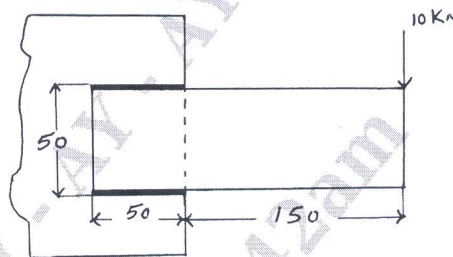

Fig.Q8(b)
b. A welded connection of steel plates as shown in Fig.Q8(b) is subjected to an eccentric load of 10kN. Determine the throat dimension of weld if the permissible stress is limited to 95N/mm^2 . Assume static conditions.